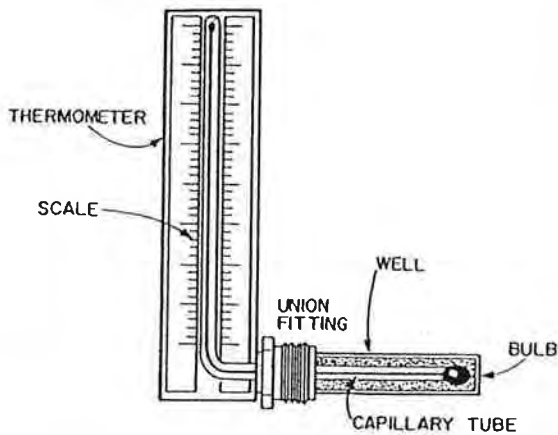

Fig. 10-5. Industrial thermometer.
10.12 For measuring the temperature of fluids in industrial piping systems, a rugged version of the familiar mercury thermometer is often used. See Fig. 10-5. The bulb and capillary tube are contained inside a protective metal tube called a "well." The thermometer is attached to the piping system (or tank, vat, or other component) by a union fitting.